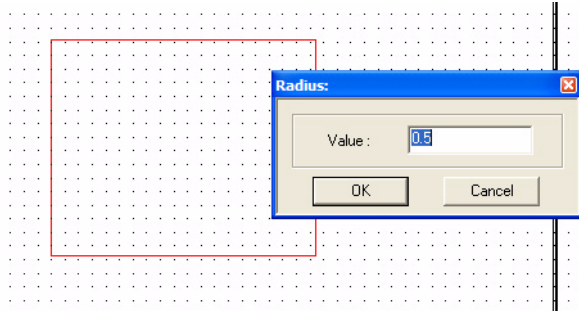

Figure 177
- 3 In the **Radius** box, assign a value to apply to the corner and then click **OK**. To change this value later, double-click on the computer screen. See figure 177.